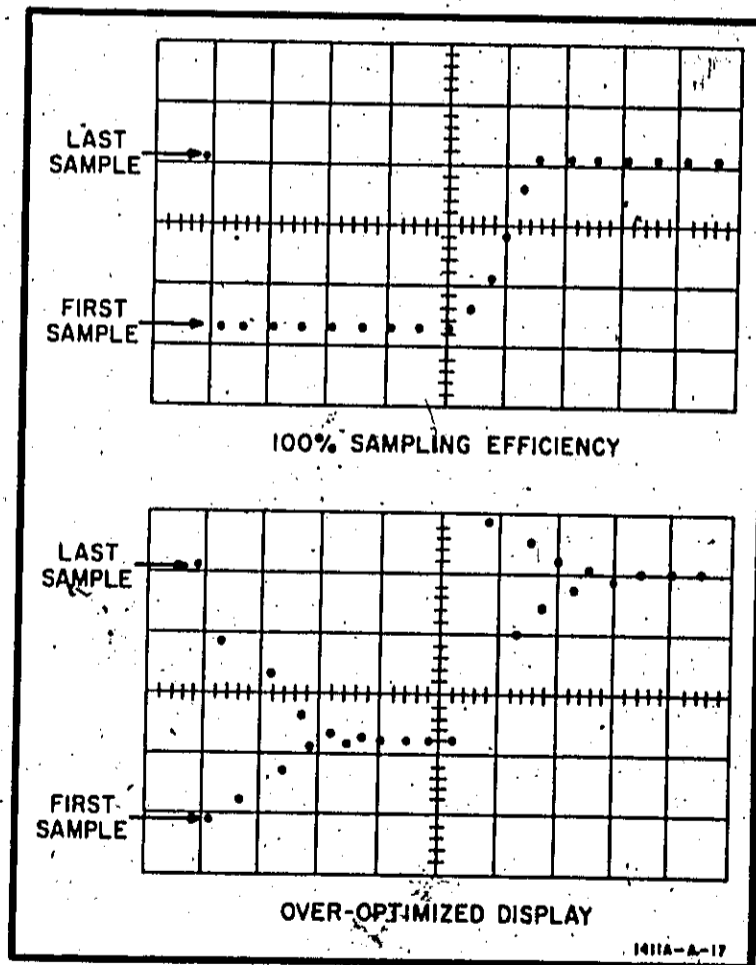

Figure 5-1. Sampling Efficiency
b. Adjust time base for a stable display. Set SCAN DENSITY to minimum. Using RESPONSE control, over-optimize the sampling efficiency (see Figure 5-1).
d. Readjust RESPONSE for 100% sampling efficiency (see Figure 5-1).